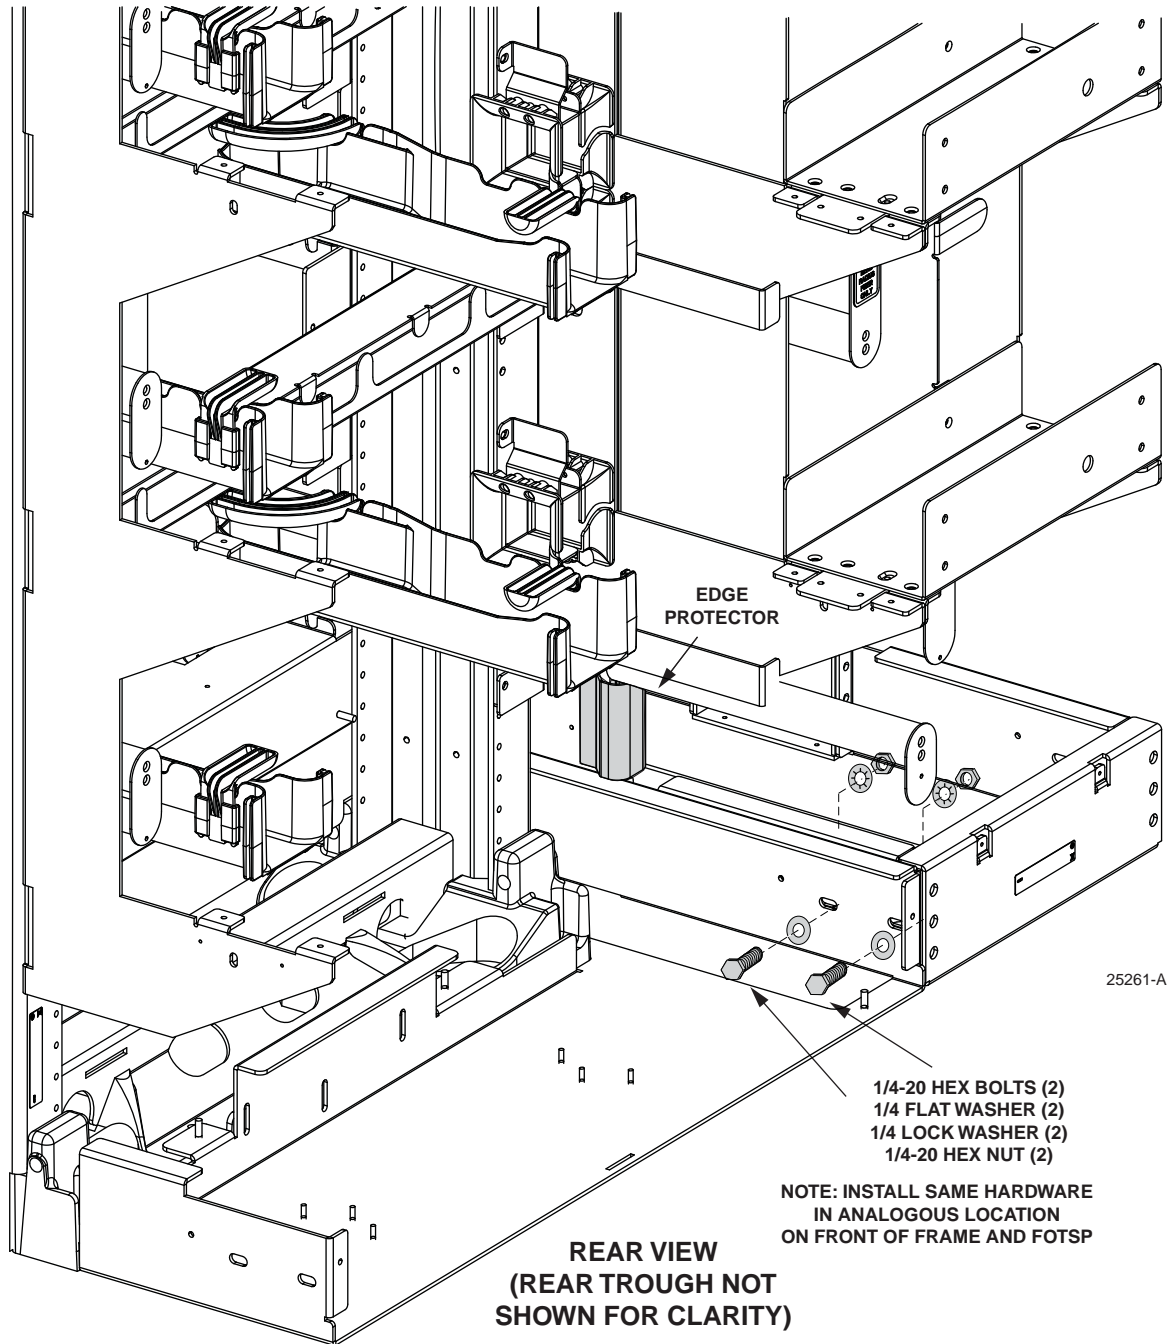

Figure 32. Bolting Together Frame and FOTSP Bases
7. To secure the bases of the frame and FOTSP together, install two hex bolts on the rear of the frame as shown in Figure 32, then, as noted, install two hex bolts in the analogous location on the front of the frame.
8. Install the edge protector on the FOTSP in the location shown in Figure 32.